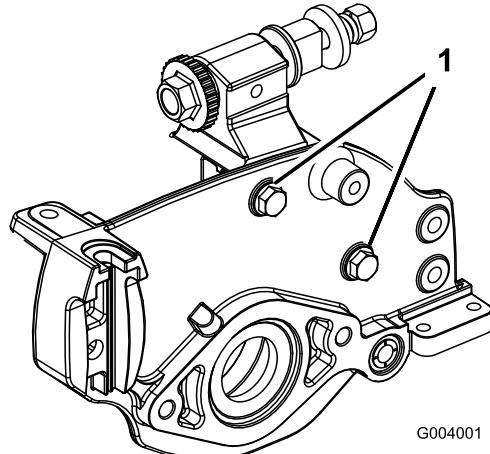

Figure 53
- Remove (2) nuts securing each roller bracket and spacer to each sideplate mounting flange.
**Note:** The position of the rear roller to the reel is controlled by the machining tolerances of the assembled components and paralleling is not required. A limited amount of adjustment is possible by setting the cutting unit on a surface plate and loosening the sideplate mounting bolts (Figure 53). Adjust and re-tighten bolts.